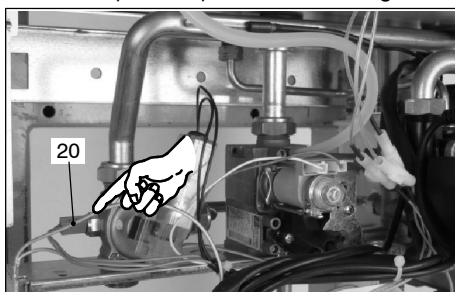

Fig. 8.3
- 9 Disconnect the electrical connectors of the C.h. temperature probe NTC 20 in Fig. 8.3
- 11 Connect the the elctrical connectors of the C.h. temperature probe NTC 20 in Fig. 8.3